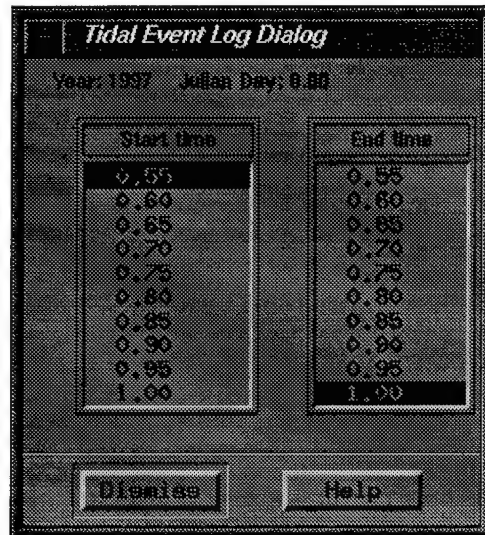

Figure 33 – Tidal event log dialog in the Post-Processor
1. Click on the 'Tidal Event Log' toggle button in the Graphics pull down menu. This generates the 'Tidal Event Log Dialog' pop-up window (Figure 33).